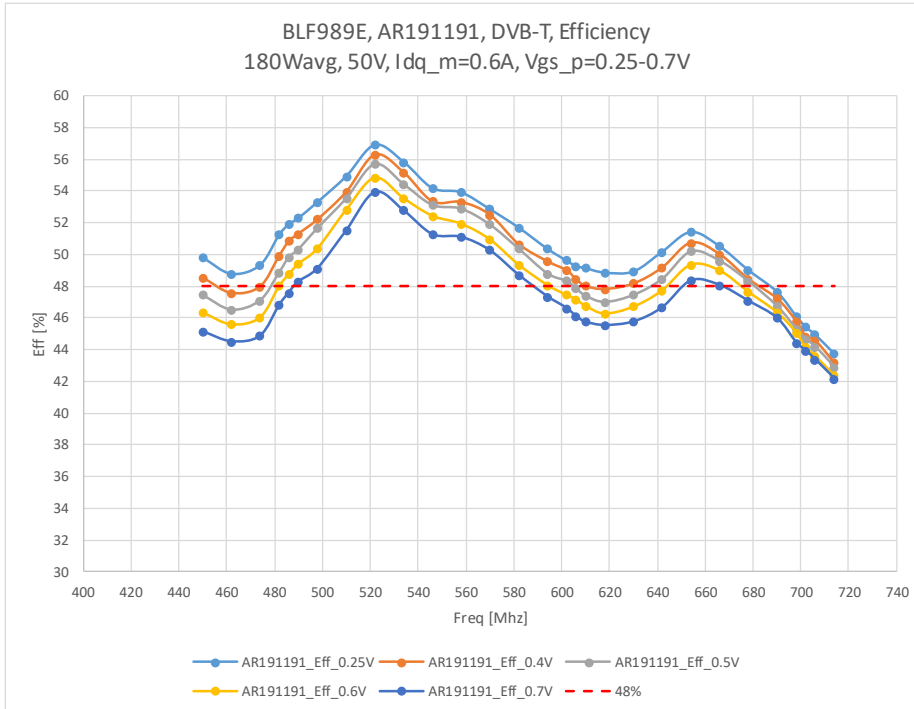

Figure 2 DVB-T, (Drain) efficiency (not corrected) $V_{gs_p}=0.25 - 0.7V$
- 3. List of figures 2
- Figure 2 DVB-T, (Drain) efficiency (not corrected) Vgs_p=0.25 – 0.7V 6